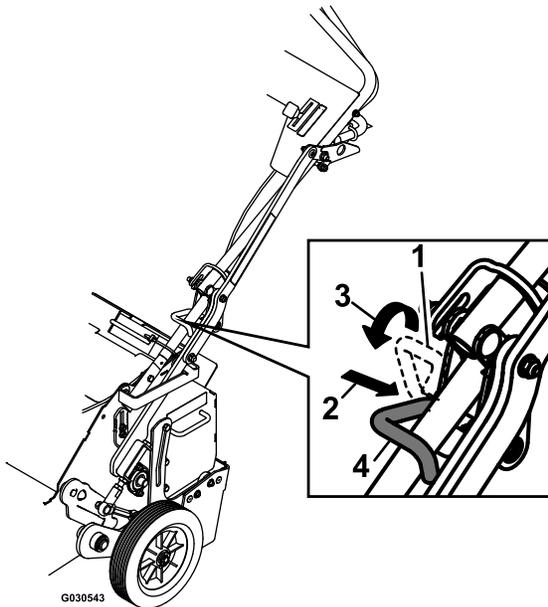

Figure 23
2. Move the transport locking pin (Figure 23) on the handle into the TRANSPORT position.